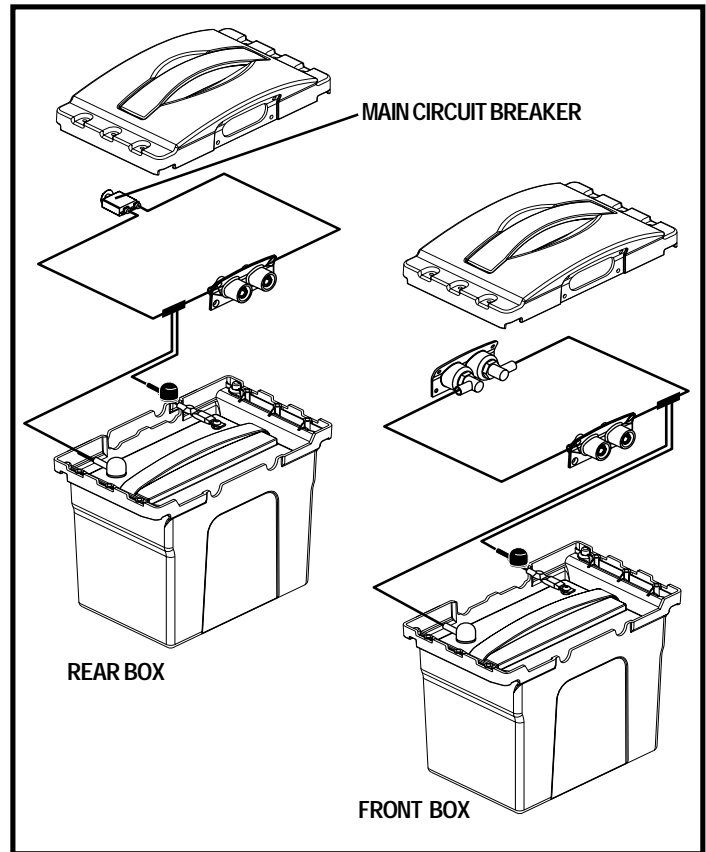

Figure 34. Battery Boxes
6. Place new batteries in the battery boxes. See figure 34.